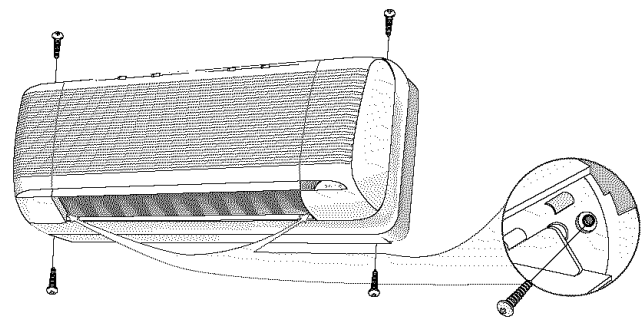

Fig. 6 — Remove Screws
1. Remove the six screws shown in Fig. 6 and remove the unit's front panel. Save the screws to reassemble.
2. Reassemble the end panel(s), using the screws (Fig. 6).